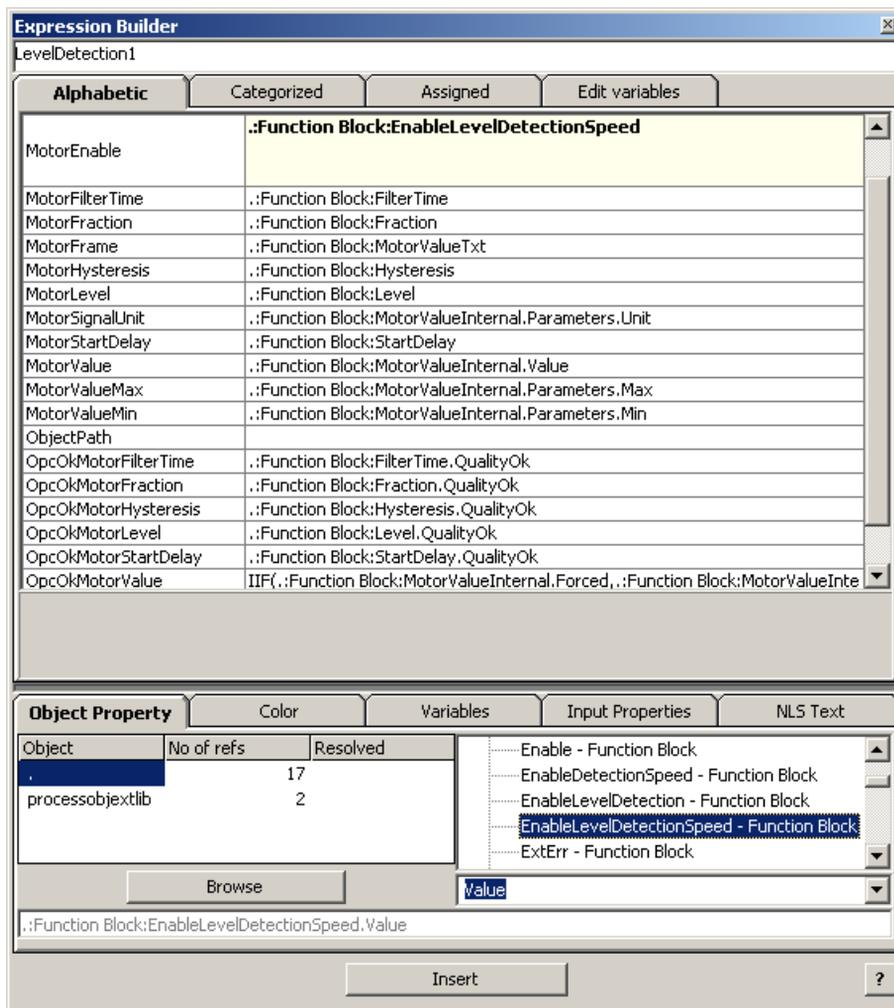

Figure 181. Changing the signals from EnableLevelDetection to EnableLevelDetectionSpeed in the Expression Builder window
- In the Expression Builder window, all the connections in the expressions from the signals used in the LevelDetection function block are changed to the signals used in the LevelDetectionSpeed function block. For example, the signal in the expression for MotorEnable is to be changed from EnableLevelDetection to EnableLevelDetectionSpeed (see the Figure 181).